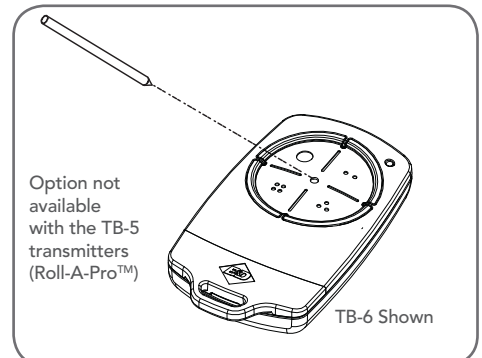

**Fig. 8.2**
- Mount the transmitter in a convenient location, yet out of reach of children and at least 1.5m off the ground (**Fig. 8.2**).